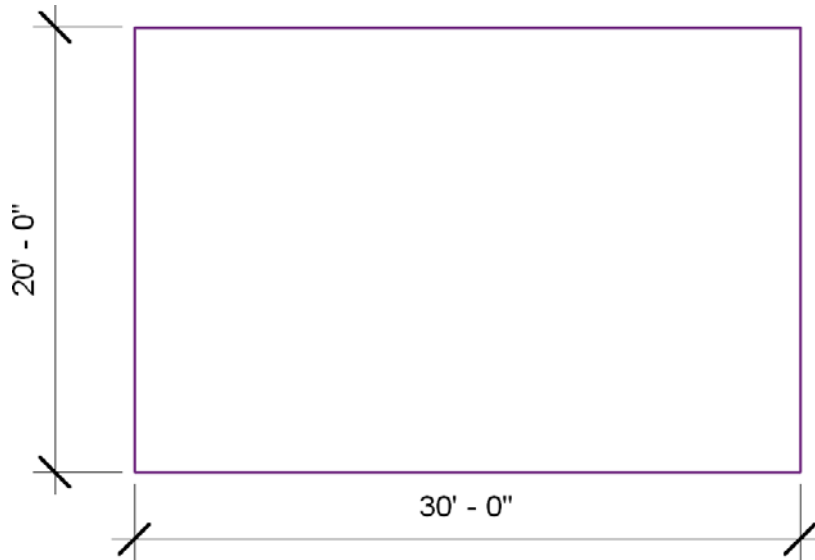

Figure 7.62
3. Create a rectangular cross section shape of approximately 30' × 20' (10 m × 7 m). Add two aligned dimensions for width and depth, as shown in Figure 7.62.